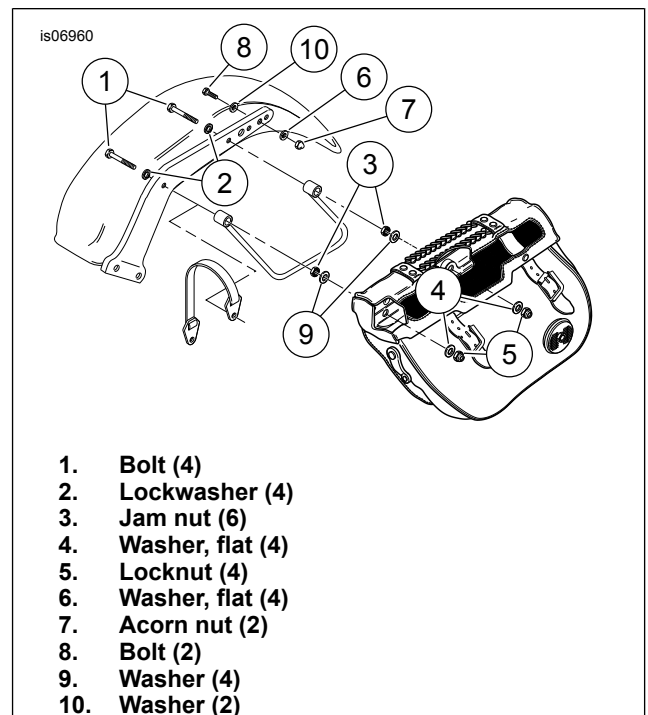

Figure 1. Removal of Saddlebag Assembly (left side)
1. See Figure 1. Remove locknuts (5) and washers (4) from bolt ends inside saddlebag.